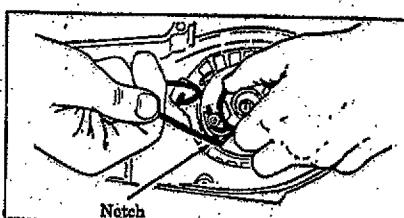

Figure 42
- Pull out 10 inches of rope and set the rope in the notch in the pulley. Figure 42.